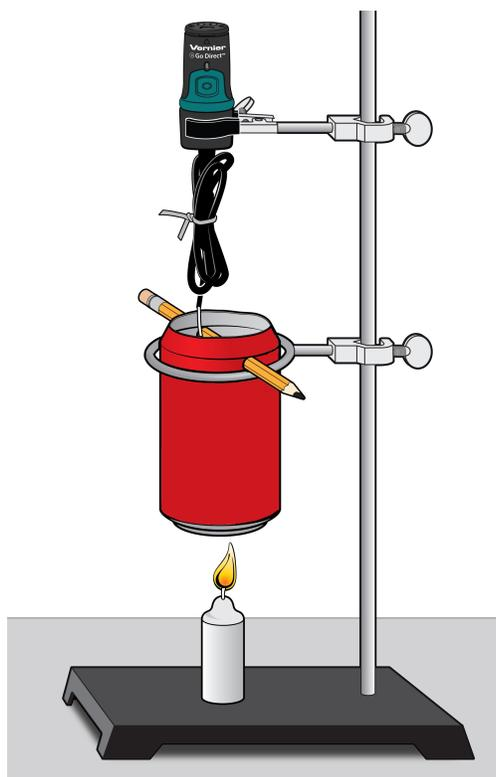

Figure 1
5. Set up the equipment (see Figure 1).